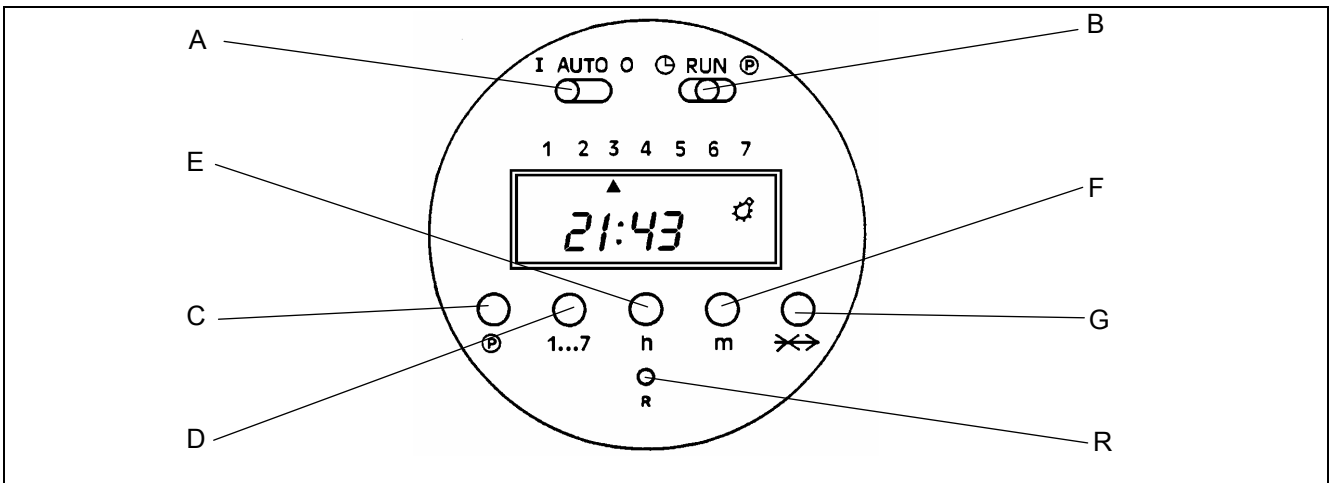

Figure 34 - PROGRAMMABLE TIMER
For all models 3002, 4002, 5002 and 8002 make sure that the "A" commutator of the programmable timer (see Figure 34) is in position I in case the unit is required to operate under the control of the room thermostat or in position AUTO in where the unit is required to operate by means of the programmable timer.
For all models equipped with time programmer (3002, 4002, 5002 and 8002) the unit can temporarily be stopped by turning the "A" commutator to the O position. (see Figure 34).
C) Press the **Ⓟ** button (reference C - Figure 34). On the right side of the display will appear number 2 without the light symbol indicating that the OFF switching time is to be set.
- A) Move the right selector (see ref. B in Figure 34) in **P** position. Press the **P** button and select the programme it has to be changed.
- B) Press button **P** and button SKIP at the same time (see ref. G in Figure 34) for at least 2 seconds and the set programme will be cleared.
- Move the **B** selector (see Figure 34) to **RUN** position.
- Press the SKIP key (see G in Figure 34) to skip the actual program. The function is shown on the display by the symbol of a crossed arrow (SKIP symbol).